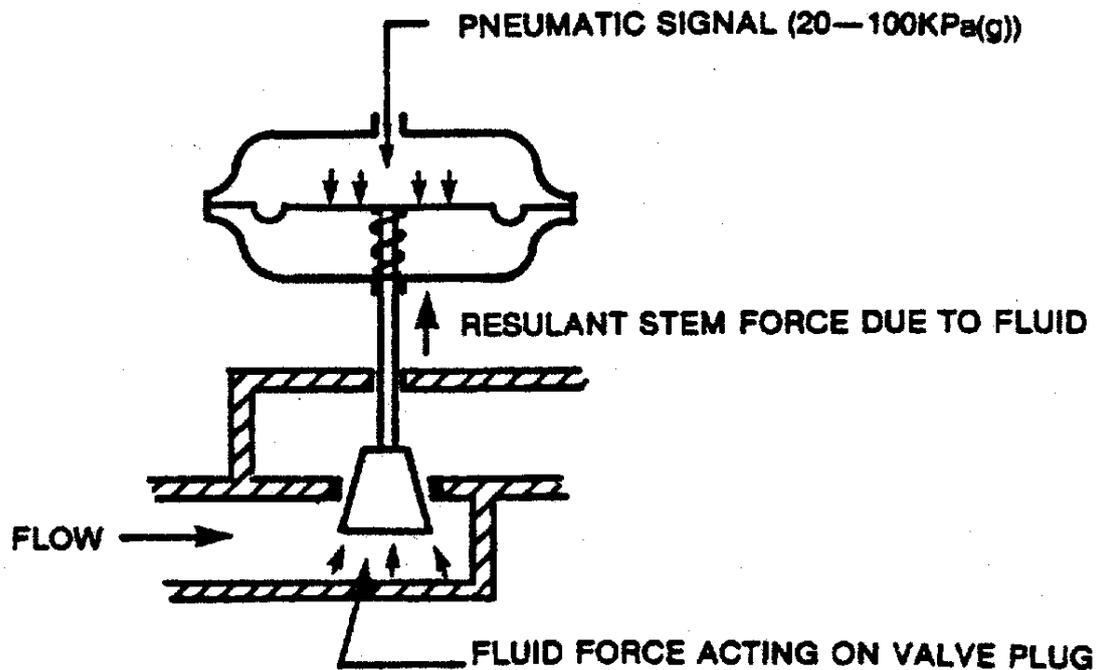

Figure 15: Air to Open Valve.
- Assume that we have an **air-to-open** globe valve which consists of a direct acting actuator and a reverse acting valve body (Figure 15).